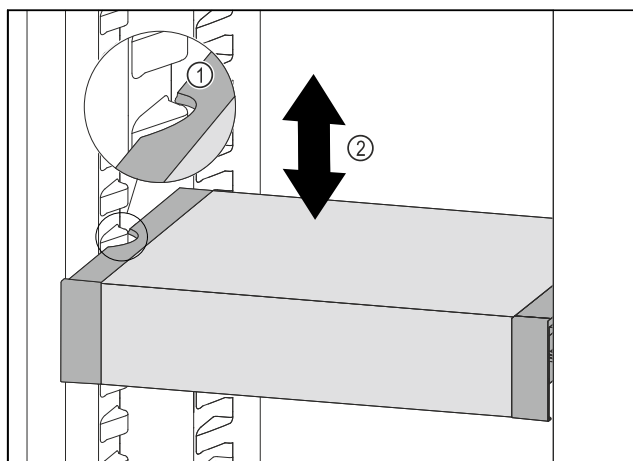

Fig. 98
- Pull VarioSafe forwards until the recesses in the side of the VarioSafe are at the level of the support rib in the refrigerator compartment. Fig. 98 (1)
- Move VarioSafe up or down in the refrigerator compartment until the desired height is reached. Fig. 98 (2)